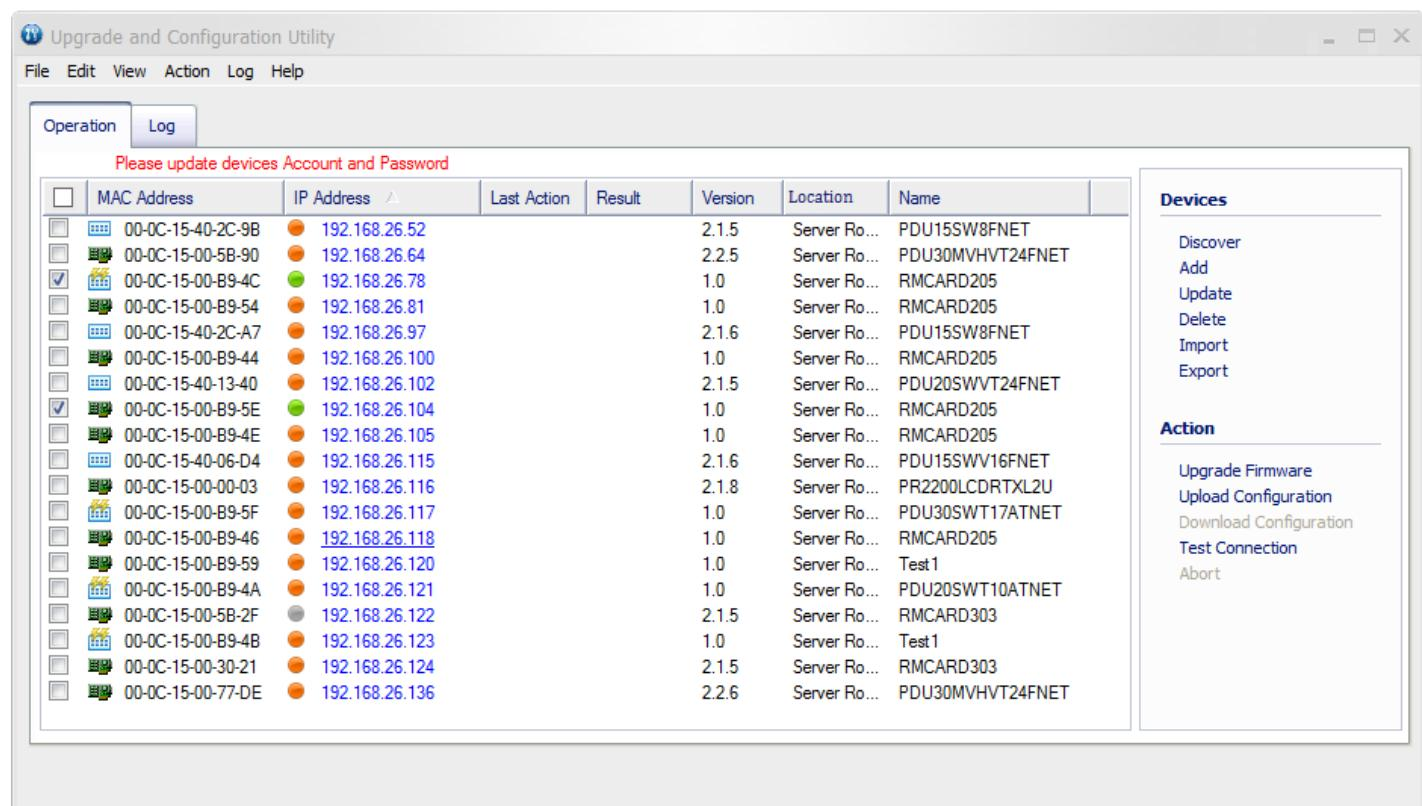

Figure 5. The main window of the “Upgrade and Configuration Utility” program.
3. The main dialog of the Upgrade and Configuration Utility tool program is shown in Figure 5. The configuration tool will display all CyberPower Remote Management devices present on the same network subnet. The “Discover” button is used to search the local network subnet again.